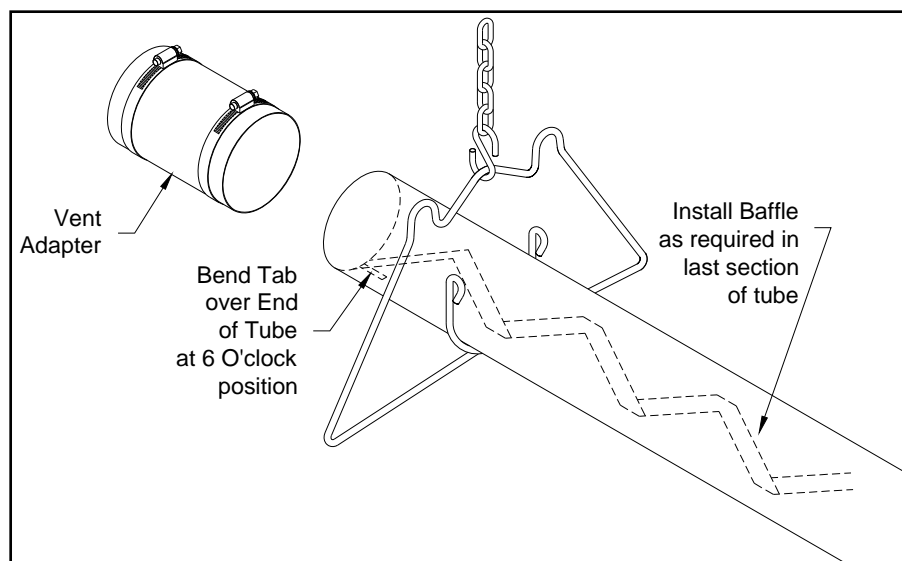

Figure 11: Baffle Installation
- If required for your heater model (refer to Table 1), install the baffle at the end of the heat exchanger. The small tab on the baffle is folded over the end of the tube and clamped in place by the vent connector and vent system, (Figure 11).